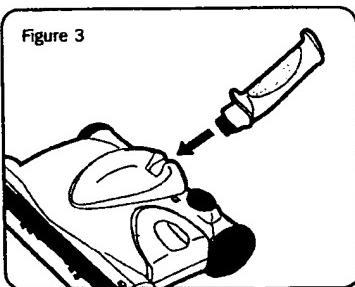

Figure 3
3. Fit the Lower Handle (9) onto the Main Unit (1), (fig3).